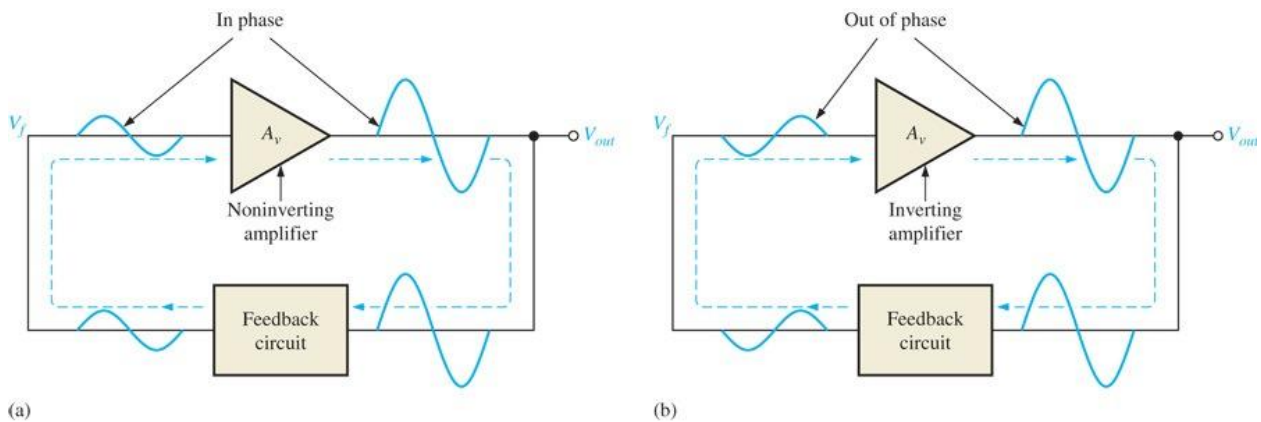

Figure 3 Positive feedback produces oscillation.
- This basic idea is illustrated in Figure 3(a).
- This is illustrated in Figure 3(b).